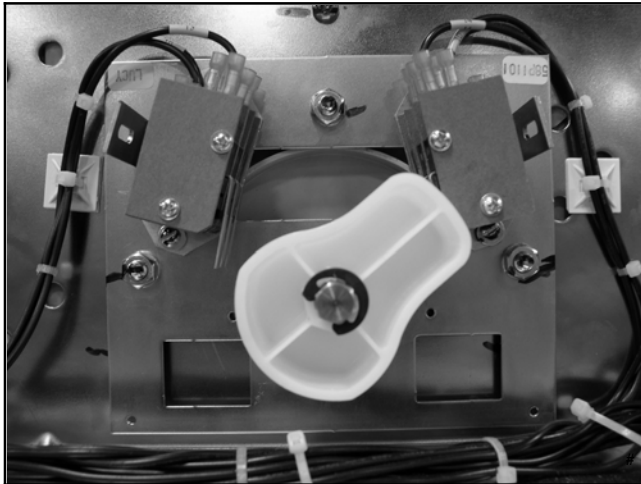

Figure 7-42 Microswitches
5. Note the location of the fast-on connectors to the microswitch terminals. See Figure 7-42.